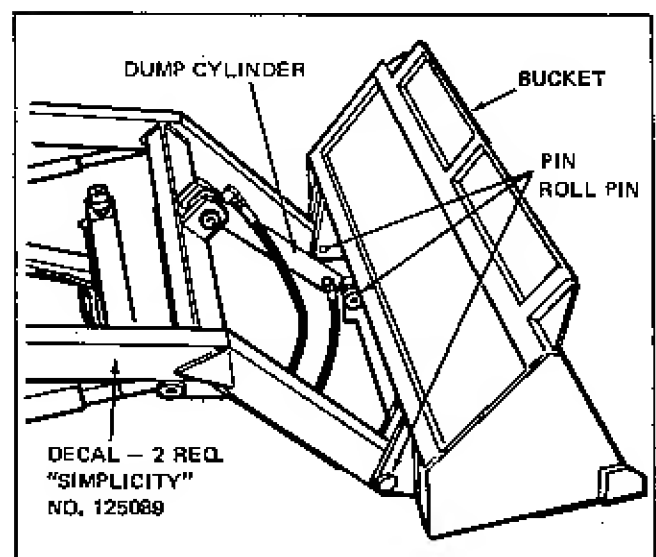

Figure 8.
11. Install bucket on loader frame using pins and roll pins provided. See Figure 8.
12. Install dump cylinder to bucket using pins and roll pins provided. See Figure 8.